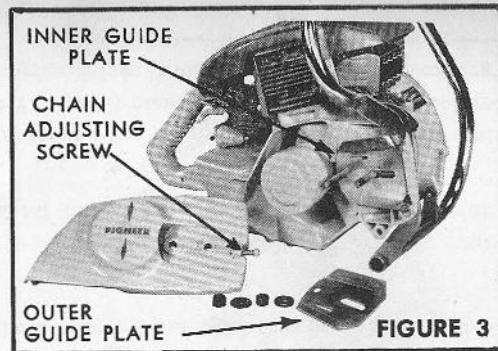

FIGURE 3
1. Remove the strut assembly and outer and inner guide plates from the motor unit (figure 3).
6. Tighten chain, using adjusting screw Fig. 3, until the chain can be pulled out of the bar about $\frac{1}{2}$ ". When released it should snap back about $\frac{1}{8}$ " clearance between the top of the side straps and the bar rail on the lower side.